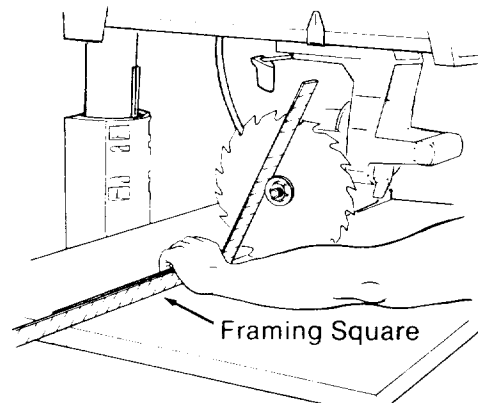

Fig. 64 - Squaring Blade to Fence
1. Put the *radial arm* in the 0° miter position with the *blade* just in front of the *fence*. (Figure 64)
3. Place the framing square with the long edge against **both** the *fence* and the *table*, and the short edge against the *blade* just above the *arbor shaft*. Make sure that the edge of the square is on the *blade* and not on the set of a tooth. (Figure 64)